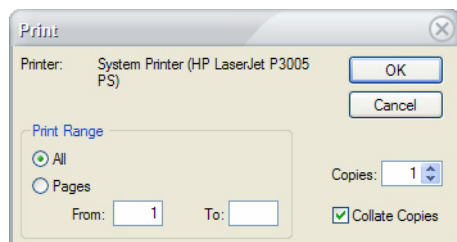

Figure 4-24: Printing an audit log
- 1) From the AirMagnet Audit Log screen, click  (Print Log) button. The Print dialog box appears. See Figure 4-24.